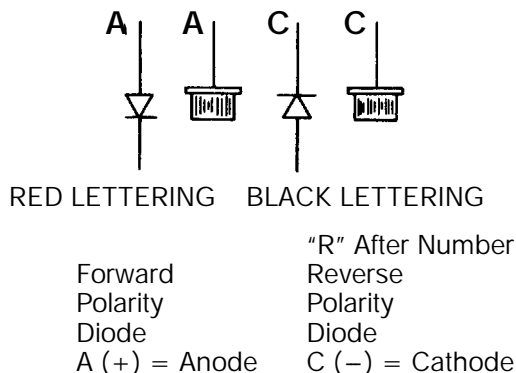

Figure 4-15. Diode Testing
2. A good diode should have a low resistance when the + of an ohm meter is connected to the anode and the - to the cathode, and a high resistance when the polarity of the ohmmeter is reversed. (See Figure 4-15)